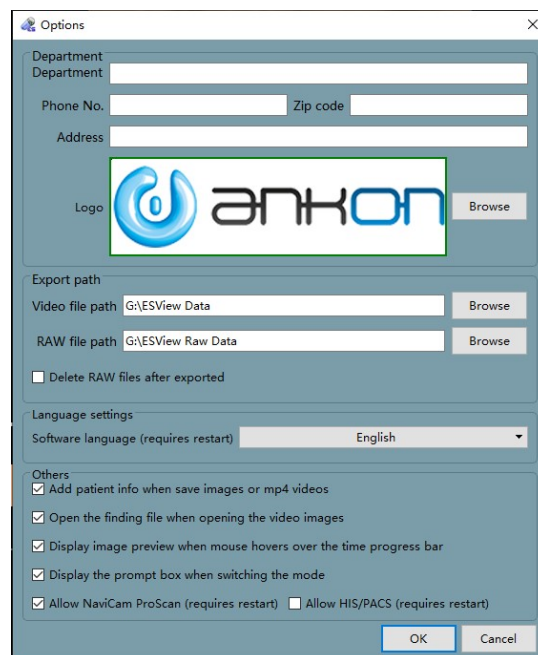

Figure 4-40: Option Setting Interface
- In the main software interface, select “Tool” → “Option” to access the option setting interface (Figure 4-40).